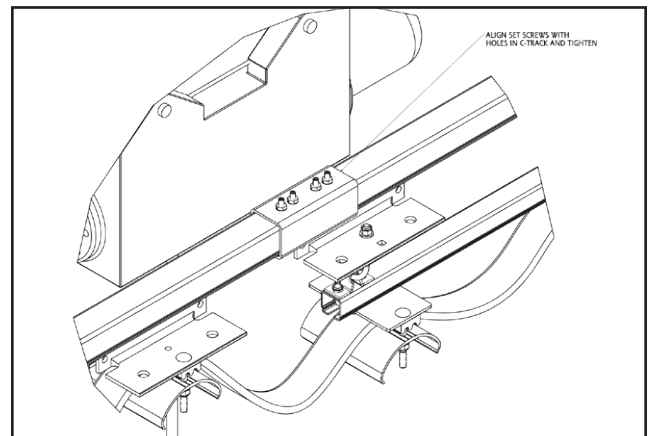

Figure 7-2
Track joints clamp for secure attachment and proper alignment of track section. Each kit includes four set screws and nuts. Welded splice assemblies are also available. See **Figure 7-2**.
1. Install the joints and tighten fasteners using a 1/8" Allen and a 7/16" open/box end or weld in place. See **Figure 7-2**.